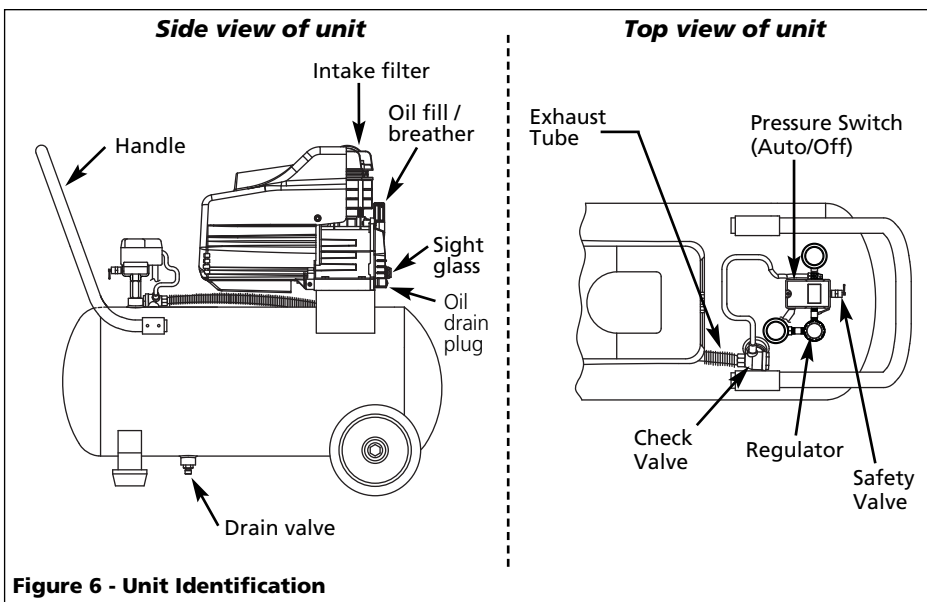

Figure 6 - Unit Identification
2. Wearing safety glasses, pull the ring on the safety valve (see Figures 6 and 8) to release pressure from compressor tank. Use your other hand to deflect fast-moving air from being directed toward your face.